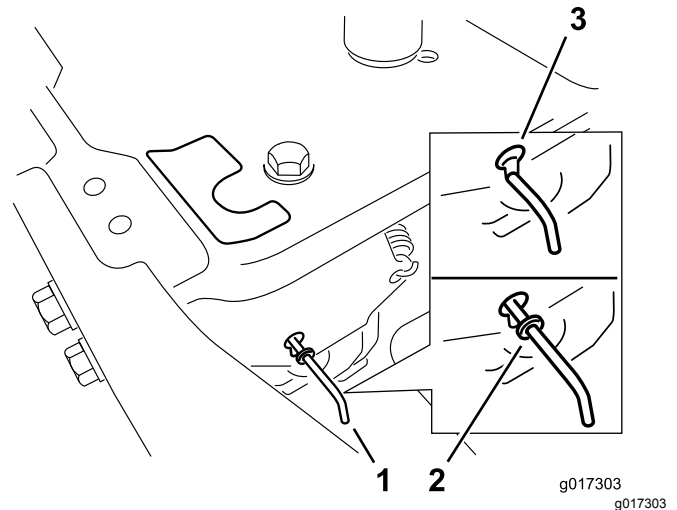

Figure 22
4. Move the bypass levers forward through the key hole and down to lock them in place (Figure 22).
Move the bypass levers rearward through the key hole and down to lock them in place as shown in Figure 22.